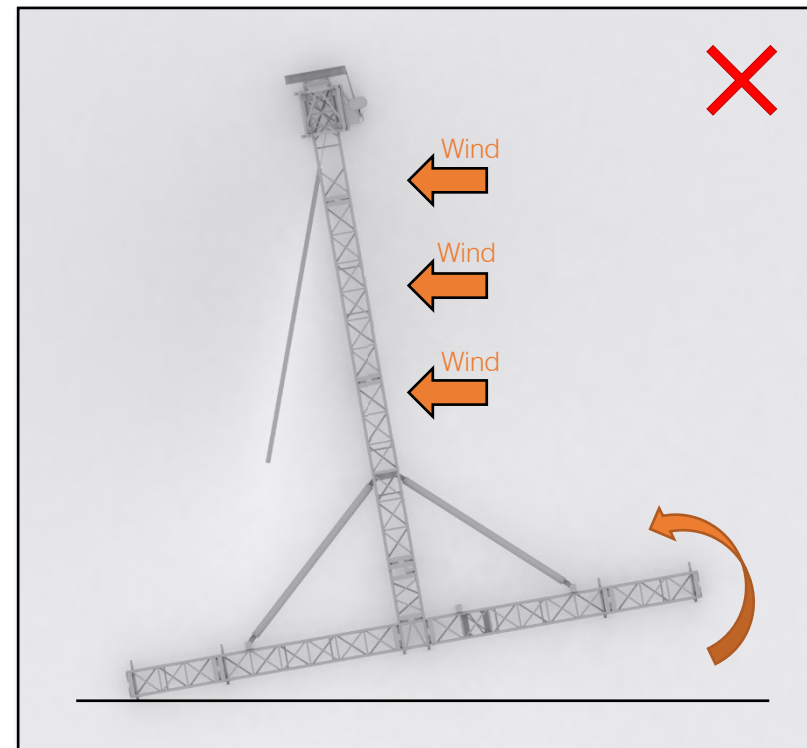

Fig. 58 – Potential for Instability due to Wind Load
12.1 **Important:** Stability of structures can be affected indoors and outdoors by changes in wind speed, direction and pressure. *Fig. 58 – Potential for Instability due to Wind Load*